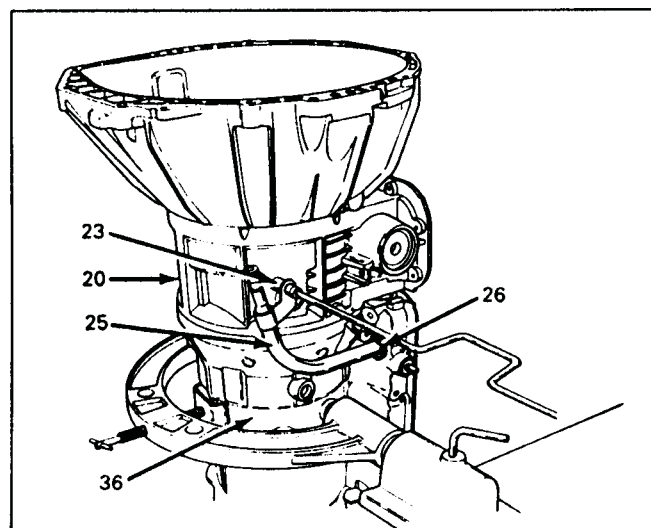

Figure 114
47. Install the fill tube seal into main case, and fill tube into the seal in main case, as shown in Figure 114.